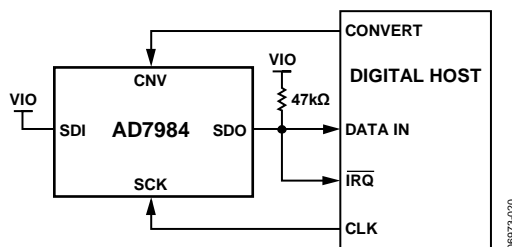
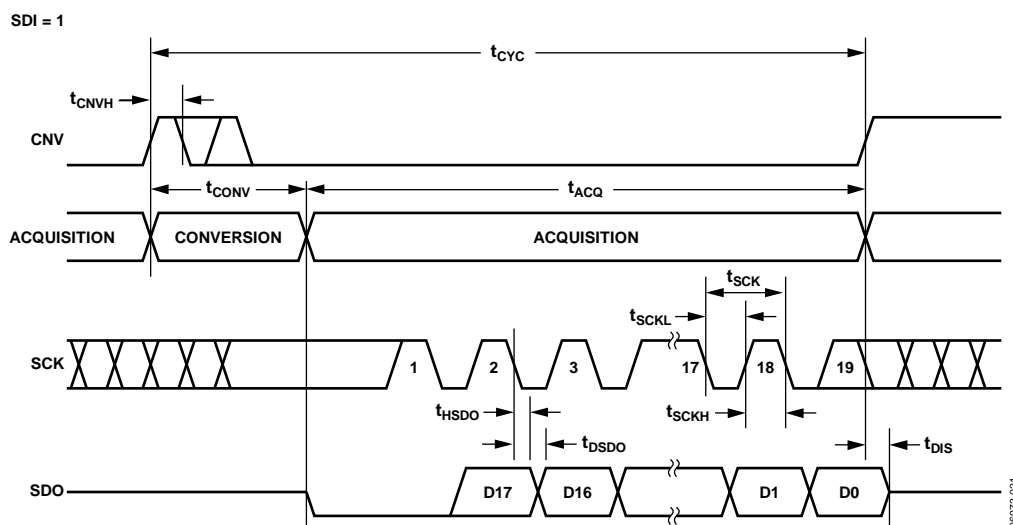
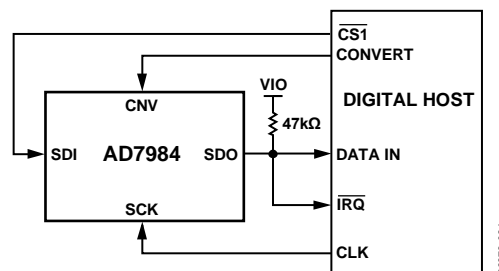
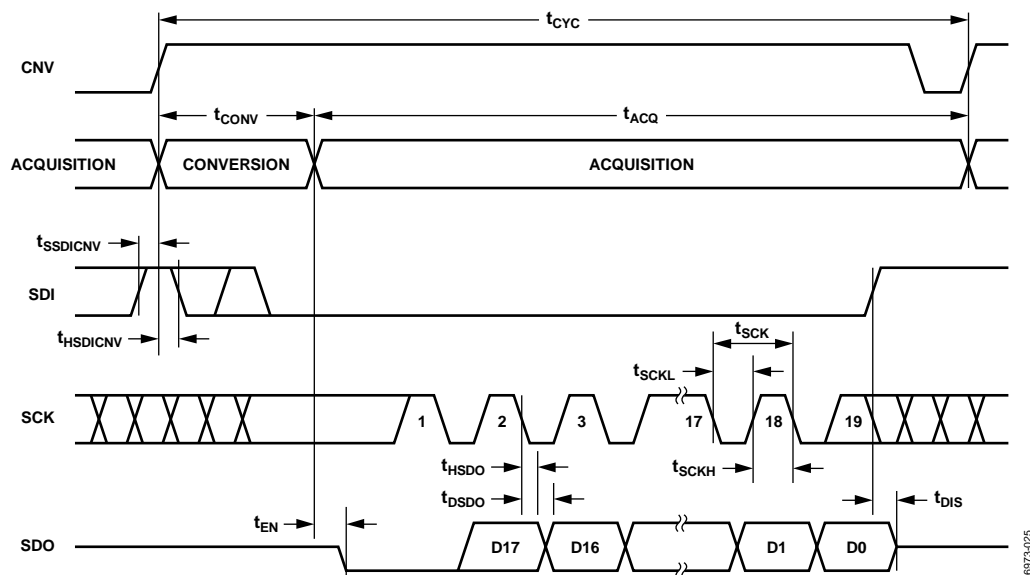

Figure 29. $\overline{\text{CS}}$ Mode, 3-Wire with Busy Indicator Connection Diagram (SDI High)
Figure 30. $\overline{\text{CS}}$ Mode, 3-Wire with Busy Indicator Serial Interface Timing (SDI High)
Figure 33. $\overline{\text{CS}}$ Mode, 4-Wire with Busy Indicator Connection Diagram
Figure 34. $\overline{\text{CS}}$ Mode, 4-Wire with Busy Indicator Serial Interface Timing
- In $\overline{\text{CS}}$ mode if CNV or SDI is low when the ADC conversion ends (see Figure 30 and Figure 34).
The connection diagram is shown in Figure 29, and the corresponding timing is given in Figure 30.
The connection diagram is shown in Figure 33, and the corresponding timing is given in Figure 34.